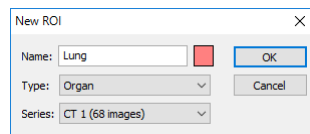

Figure 226 – New ROI dialog
2. The **New ROI** dialog for defining the main properties of the new ROI is then displayed (see Figure 226).